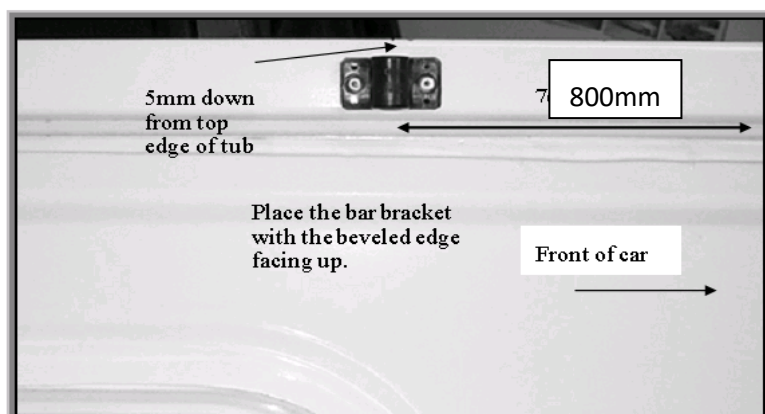

Figure 2: Placement of bar bracket
5. To fit bar brackets measure 800 mm from the inside edge at the front of the tub and place them as shown in Figure 2 (5mm down from top edge of tub). Drill and rivet, using 4 rivets. Install bar according to supplied instructions.